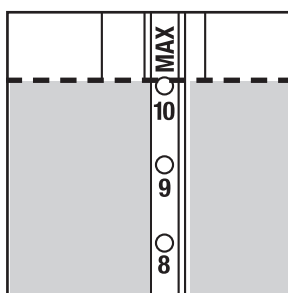

FIG. 6
2. Open water container lid (Fig. 1, A) and pour water into the water container. **Caution:** Make sure the water level does not exceed the MAX setting (Fig. 6). If you fill too much water into the tank the carafe may overflow with hot coffee.